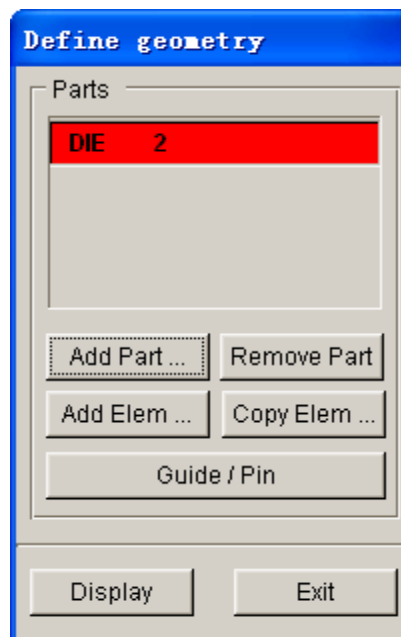

Figure 1.17 Die geometry list
7. Click **OK** button to return to the DEFINE GEOMETRY dialog box. **DIE** part is added to the list of die. See Figure 1.17.